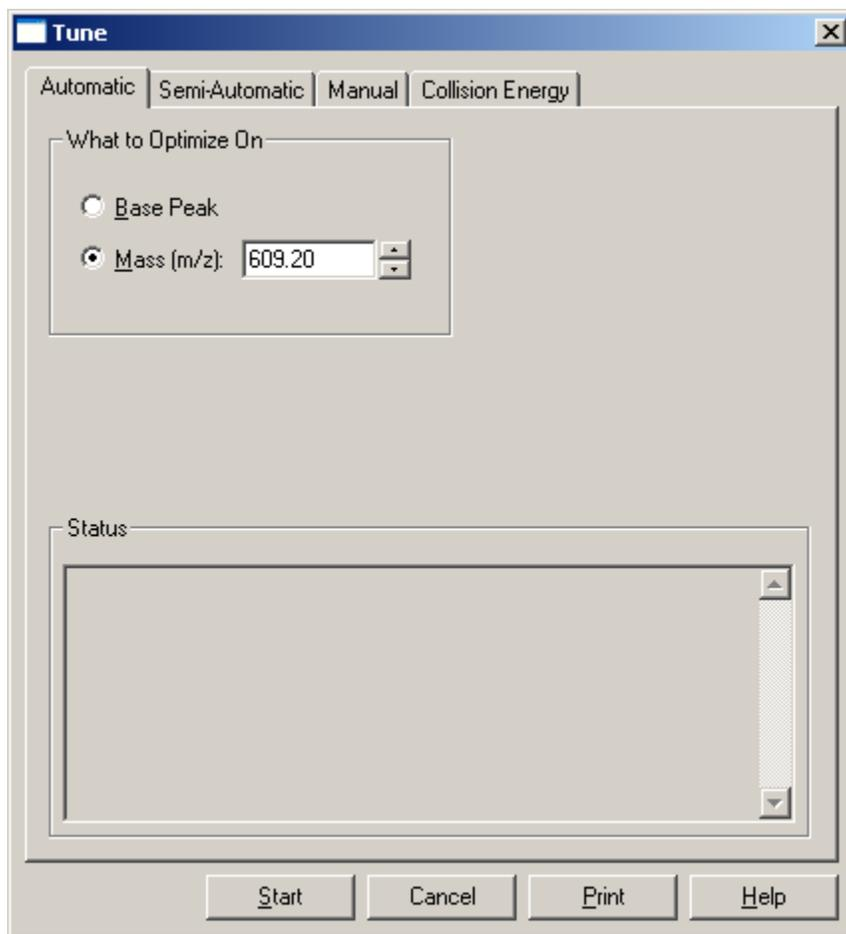

Figure 33. Tune dialog box, showing the Automatic tuning page
2. If necessary, click the **Automatic** tab to display the Automatic tuning page. See Figure 33.